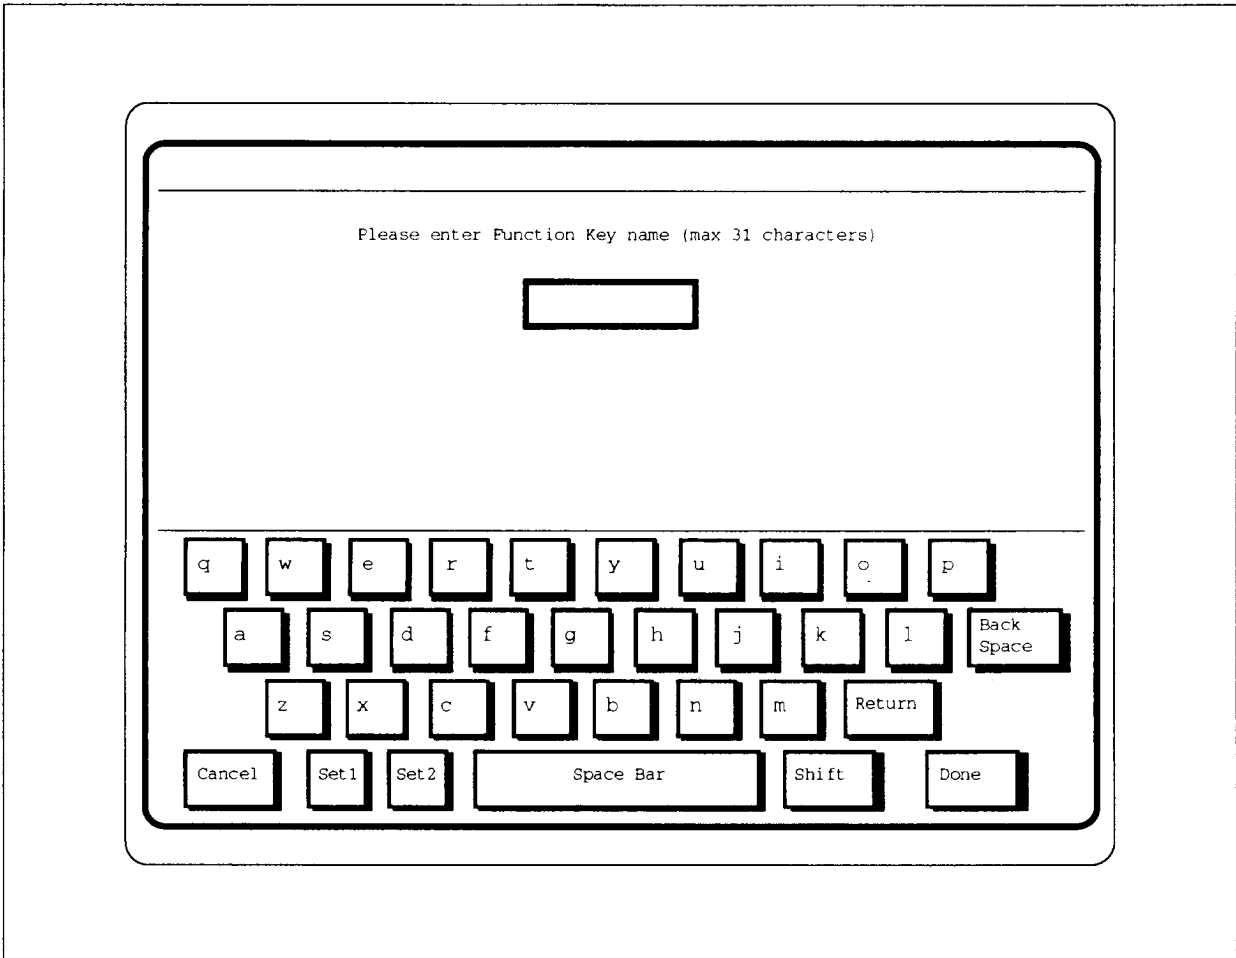

**Figure 3-1. Function Keys menu.**
3. Touch the Function Keys softkey. This displays the FunctionKeys directory and the Function Keys menu (Figure 3-1).